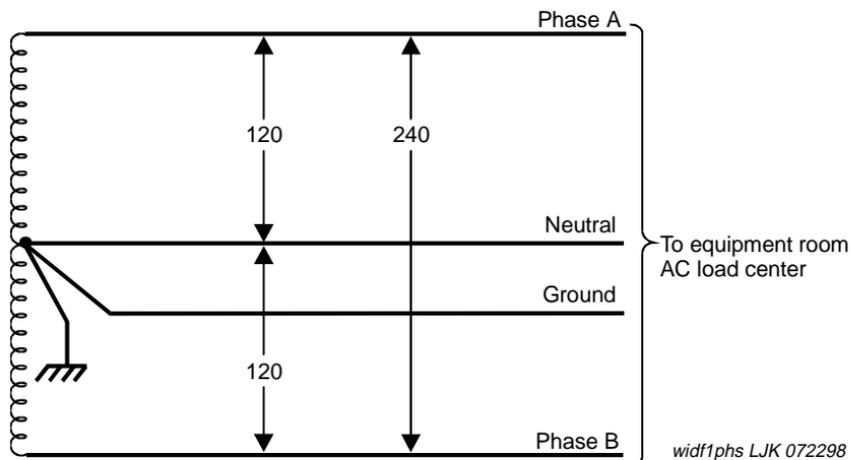

Figure 16. Single-Phase, 120/240 VAC, 60 Hz Source
- Single-phase, 4-wire, 120/240 VAC. See Figure 16.